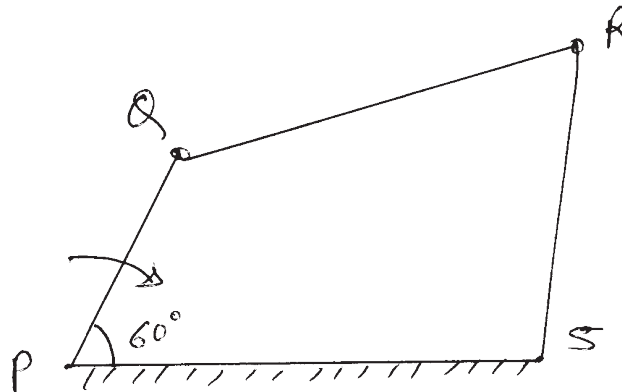

Fig. No. 2
- PQRS is a four bar chain with link PS fixed. Length of links are $PQ = 62.5$ mm, $QR = 175$ mm, $RS = 112.5$ mm, $PS = 200$ mm. The crank PQ rotates at 20 r/s clockwise. Draw space diagram when angle $QPS = 60^\circ$. Also draw velocity and acceleration diagram to find angular velocity and angular acceleration of link QR. (Refer Figure No. 2)